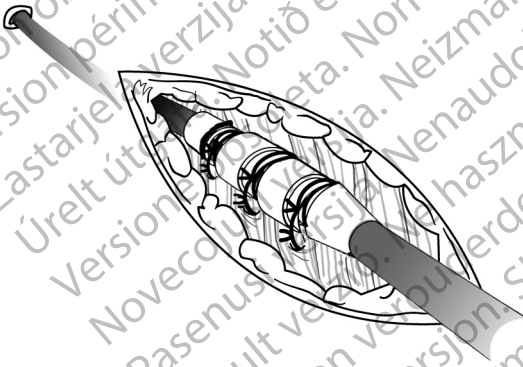

Figure 10. Example of suture sleeve, percutaneous implant technique
1. Peel back the introducer sheath and slide the suture sleeve deep into the tissue (Figure 10 Example of suture sleeve, percutaneous implant technique on page 25).